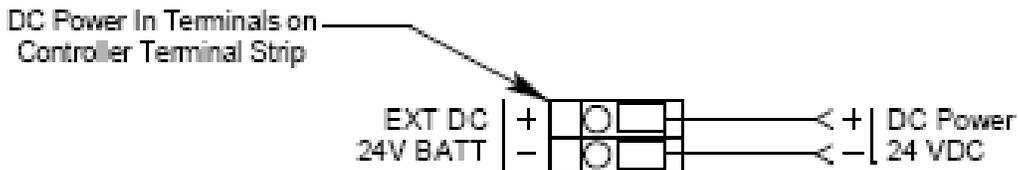

Figure 7: DC Power Wiring
6. Connect the DC power wires to the controller terminal strip as shown in Figure 7 below.